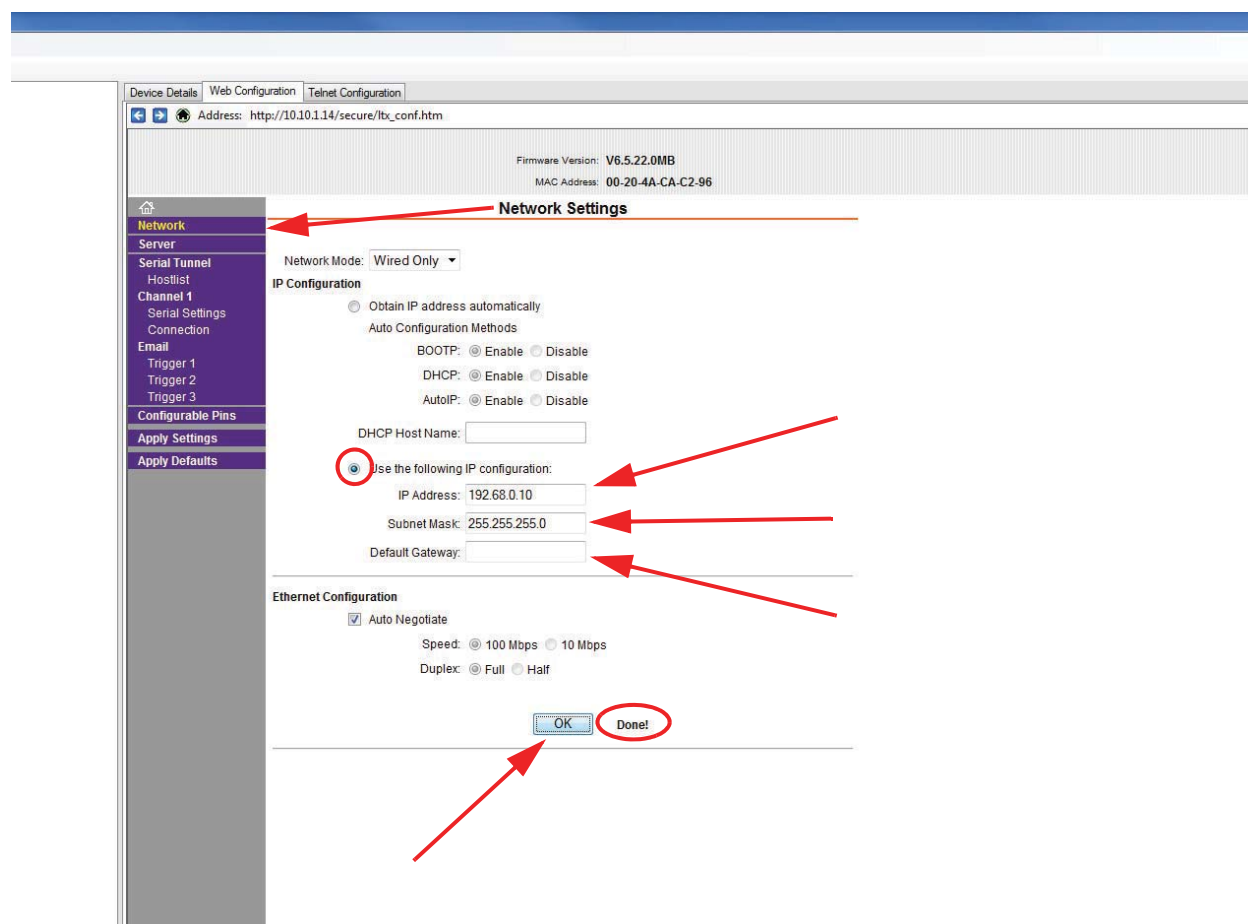

Figure 4-9 Network Settings
- Press the **OK** button to save the settings. Network Settings will display **Done!** See Figure 4-9.